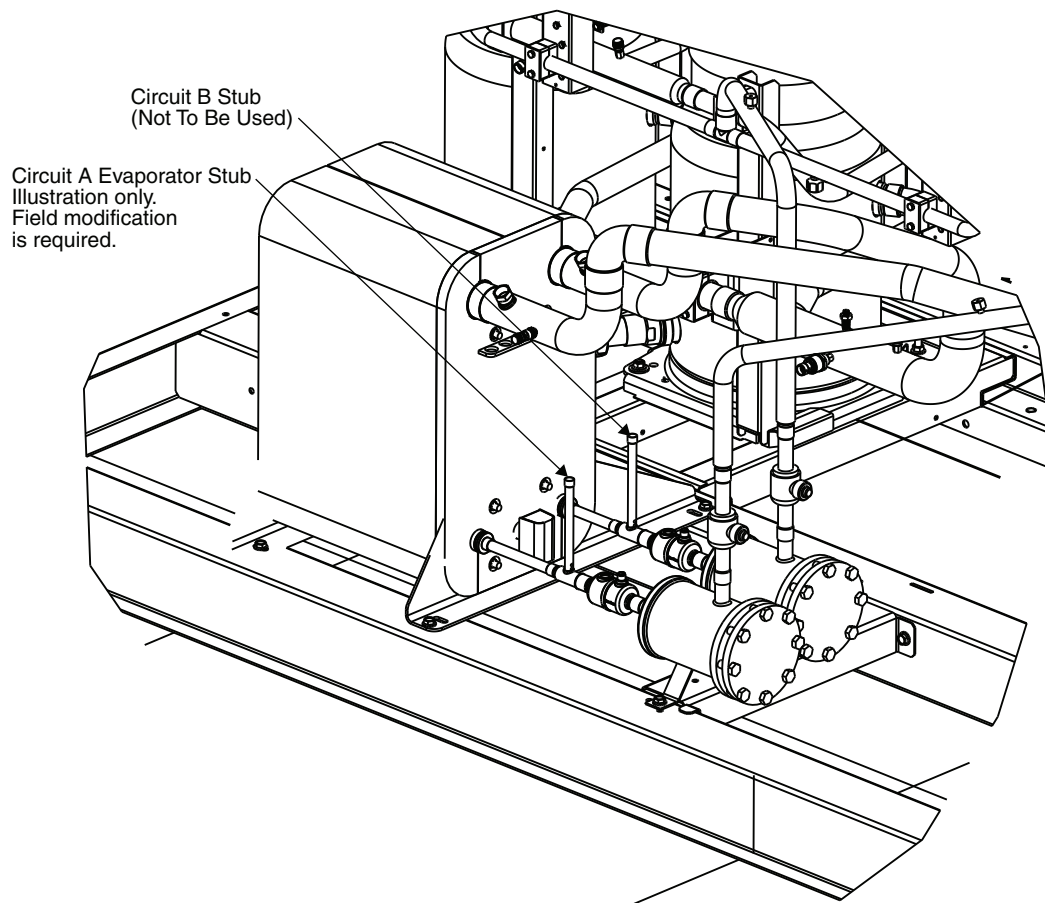
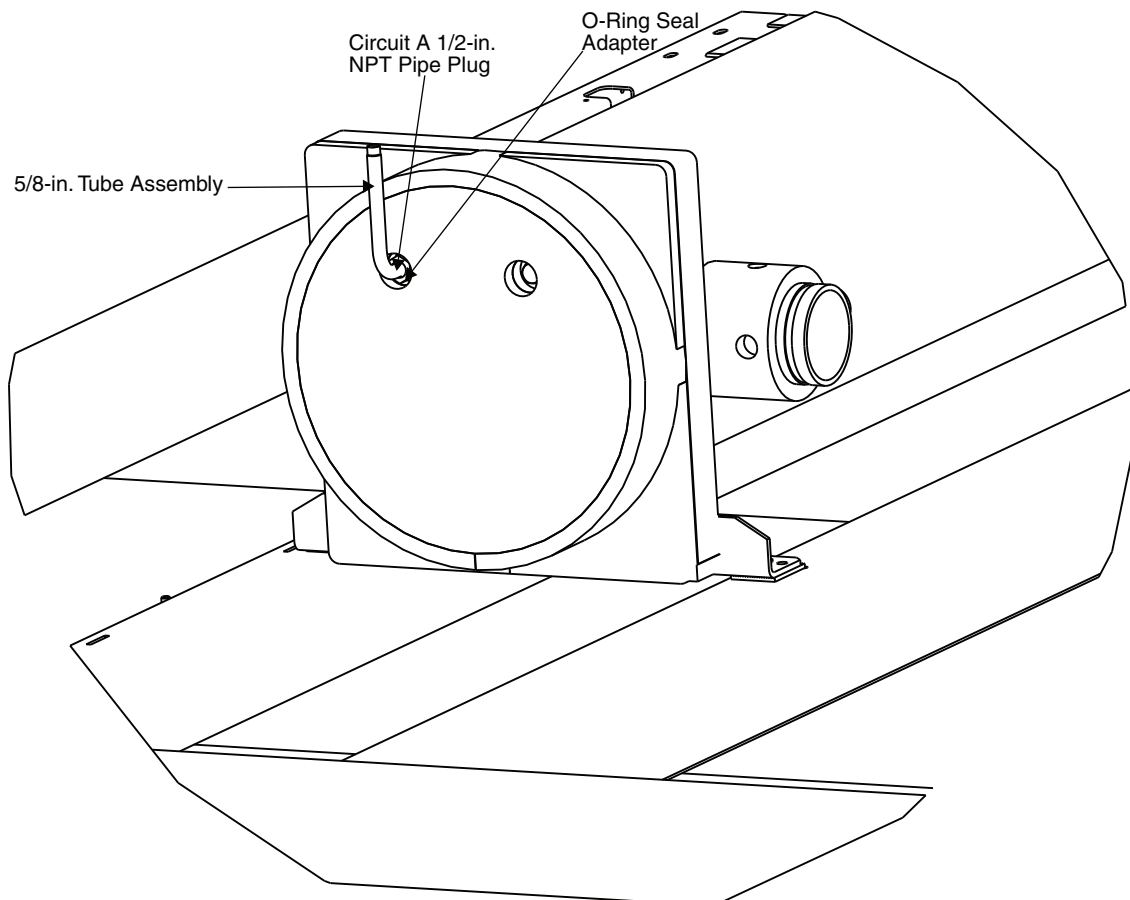

Fig. 3 — BPHE Stub Tube Location
Fig. 4 — DX Cooler Pipe Plug Location
4. For units with BPHE evaporators, locate the factory-supplied stub on liquid line between the EXV and BPHE of circuit A. Use a tubing cutter to cut off end of the stub tube. See Fig. 3. For units with DX cooler evaporators, locate the 1/2 in. NPT pipe plug at the blank end of the cooler and remove it. Use an appropriate thread-sealing compound and install the 1 in. — 14 O-ring seal adapter (Item 1). Lightly lubricate the O-ring and attach the 5/8 in. O-ring seal tube assembly (Item 2) to the adapter. This nut should be torqued to 30 ft-lb (40 Nm). See Fig. 4.